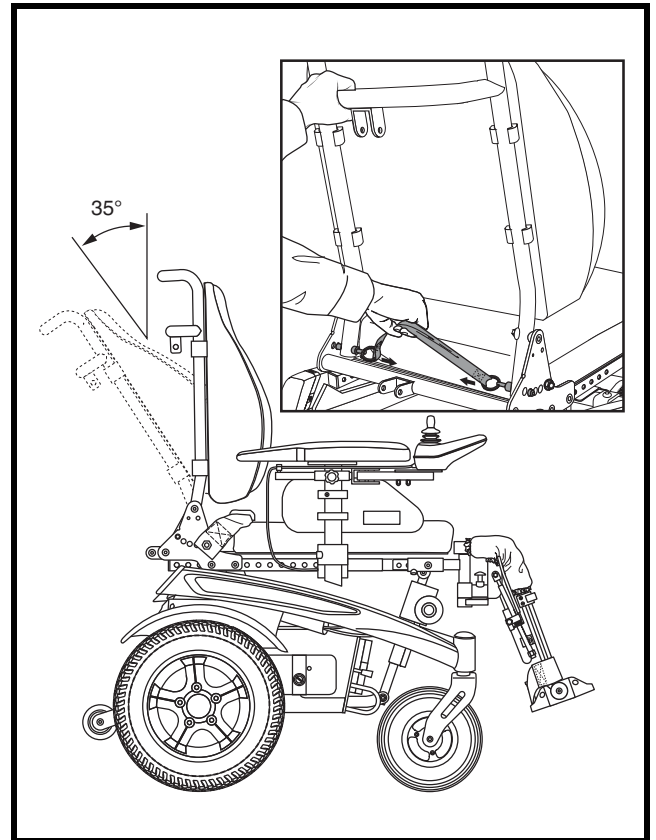

Figure 10. Manual Recline Seatback Adjustment
1. Pull the adjustment strap on the bottom portion of the seatback. See figure 10.